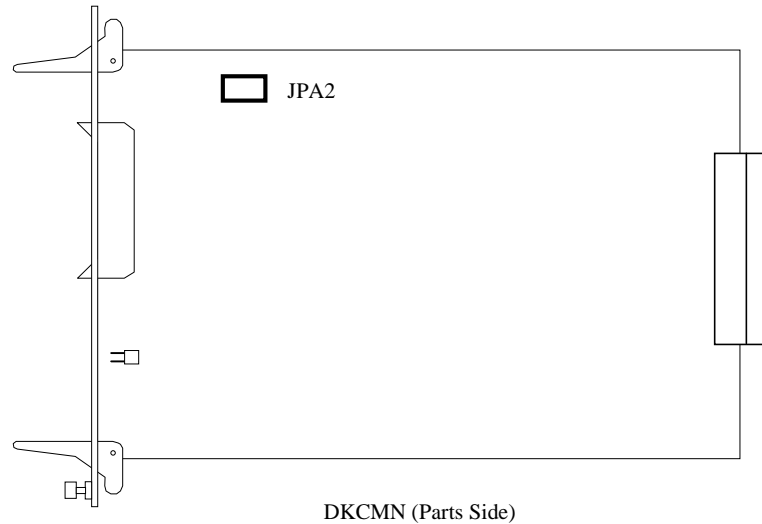

Fig. 3.11-5 Location of Jumper Plugs
- a. Set the jumper plugs in the DKCMN PCBs referring to Fig. 3.11-5, Table 3.11-2.